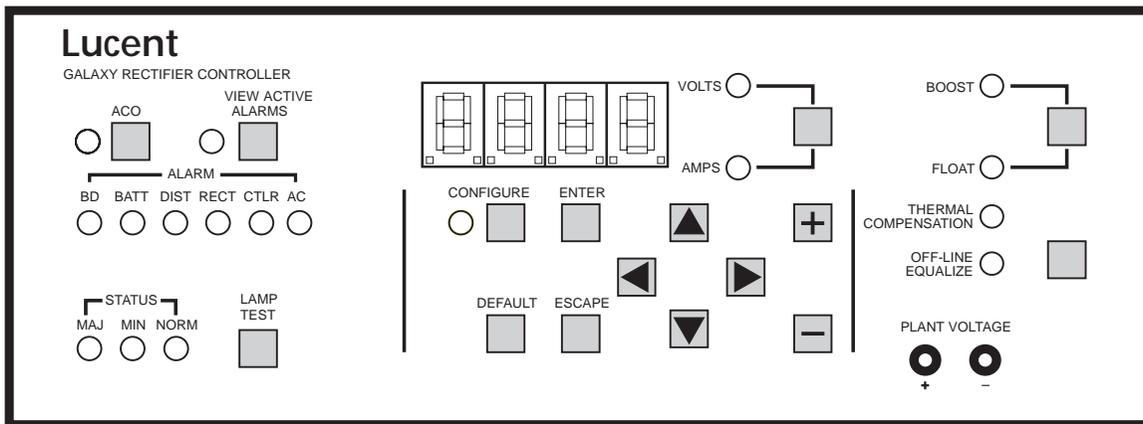

Figure 15-2: Galaxy RC Controller Front Panel
- Figure 15-2 Rectifier Controller (RC)